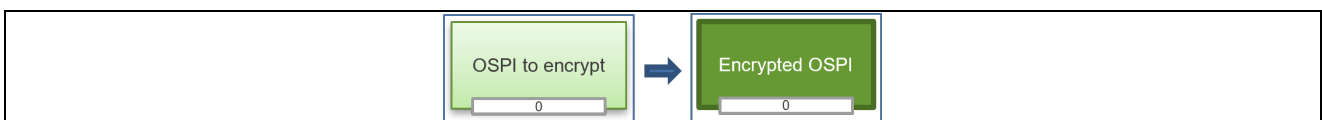

Figure 13. SKMT Support for DOTF Production Programming, Complete File
- Production programming. The input file contains separately generated data that will be stored on OSPI memory (for example, large graphical images). The output file contains the encrypted OSPI data as a separate file with addressing starting at 0 for external programming of the OSPI. This file can then be used for external programming of an OSPI memory chip. See Figure 13. SKMT Support for DOTF Production Programming, Complete File.